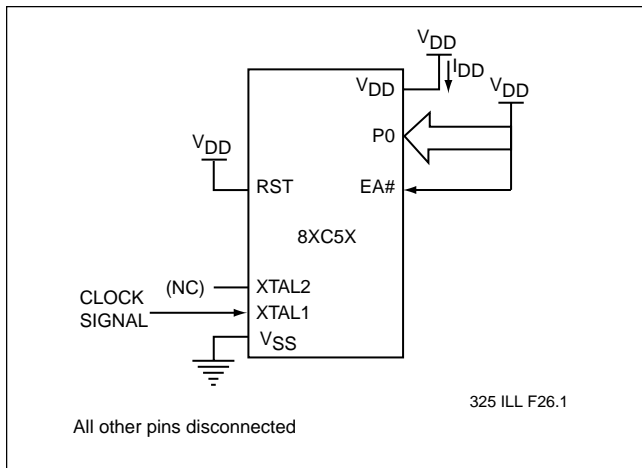

FIGURE 20: I_{DD} TEST CONDITION, ACTIVE MODE
- See Figures 20, 21, 22 and 23 for test conditions. Minimum V_{DD} for Power Down is 2 V.